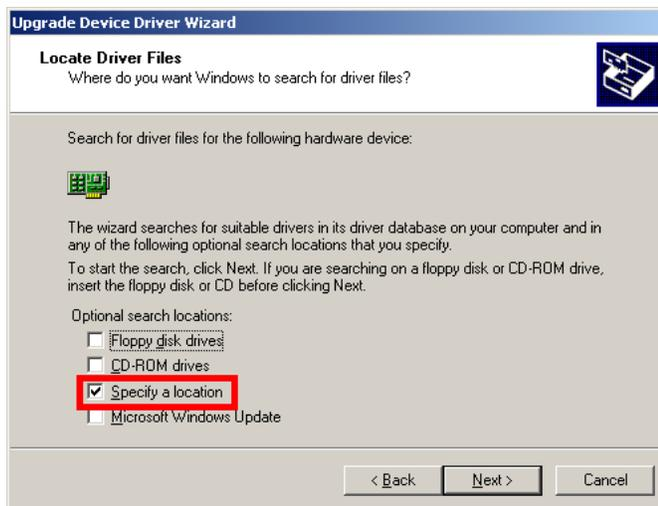

Figure 6-24: Locate Driver Files
Step 8: Select “Specify a Location” in the Locate Driver Files window (**Figure 6-24**).